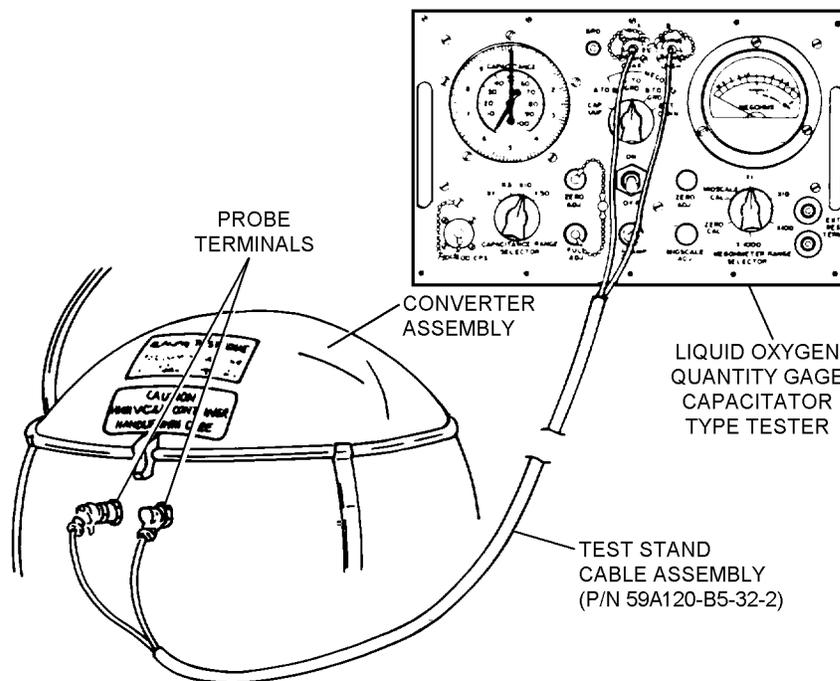

Figure 7-10. Capacitance/Insulation Resistance Test Hook-Up Probe Terminals
2. Using test stand cable assembly (figure 7-10), connect converter probe assembly electrical connectors (23 and 24) to terminals marked A and B of liquid oxygen quantity gage capacitance type tester.